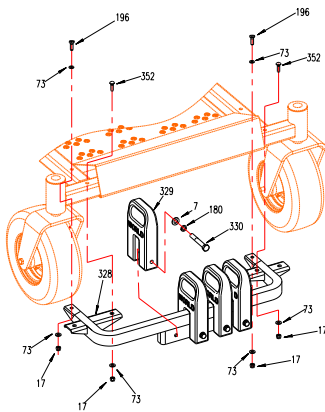

FIG 8
**Note:** The number of weights can be adjusted as needed to offset weight of grass in bag. (FIG 8)